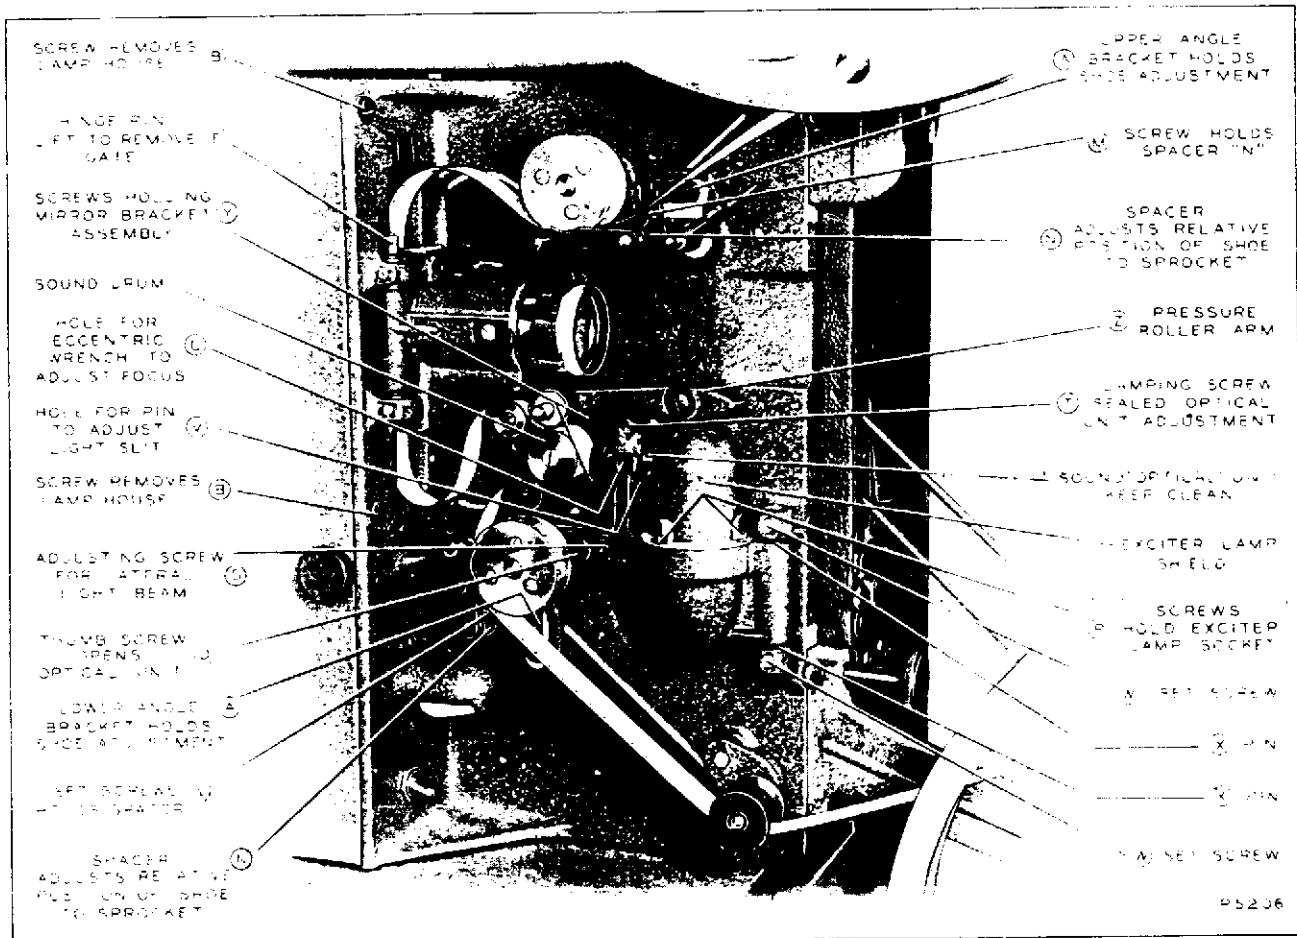

Figure 15—Operating Side of Projector for Servicing
(1) Remove the two screws B (fig. 15) from the front and the single screw from the rear of the projector frame.
(2) Disconnect the three wires from the terminal board.
(3) Remove the lamp house by pulling it gently toward the rear of the machine, avoiding damage to the blower or the motor shaft in doing so.
(a) Remove the three screws P (fig. 15) and lift the lamp socket out of the bracket.